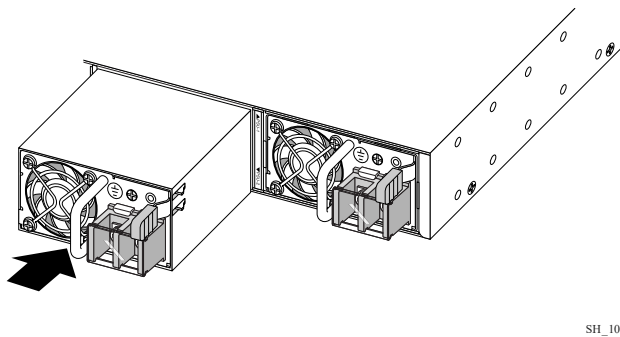

Figure 279: Installing an 850 W DC Power Supply
2. The proper orientation is shown in Figure 279.
3. See Figure 279.